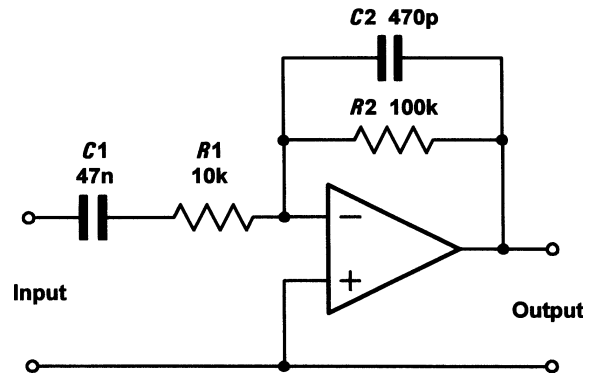

Figure 8.21
- 8.7 Determine mid-band voltage gain and upper and lower cut-off frequencies for the amplifier stage shown in Fig. 8.21.